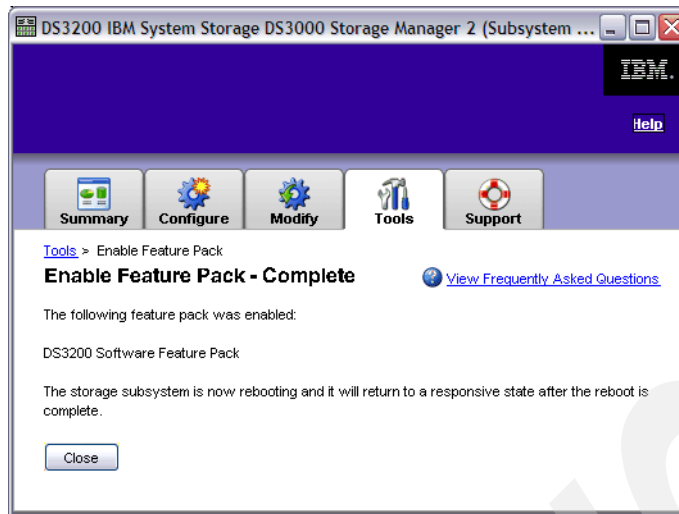

Figure 12-17 Enable Feature Pack - Complete
3. The key file is committed to the system. You will see a confirmation message similar to Figure 12-17. Click **Close** to go back to the Tools tab. The DS3000 system will reboot.